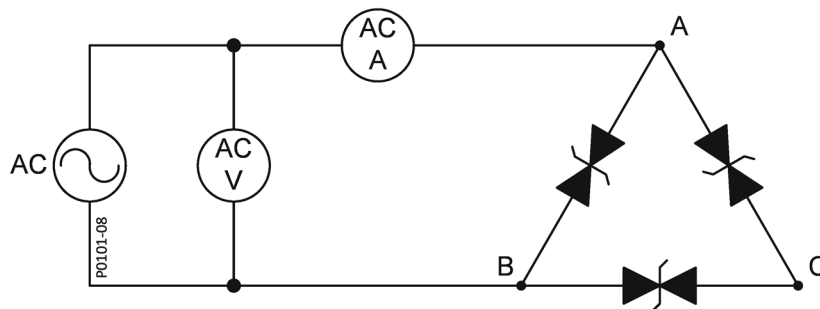

Figure 6-5. Test Connections, AC Three-Phase Delta Suppressor
- AC three-phase delta suppressor: Figure 6-5